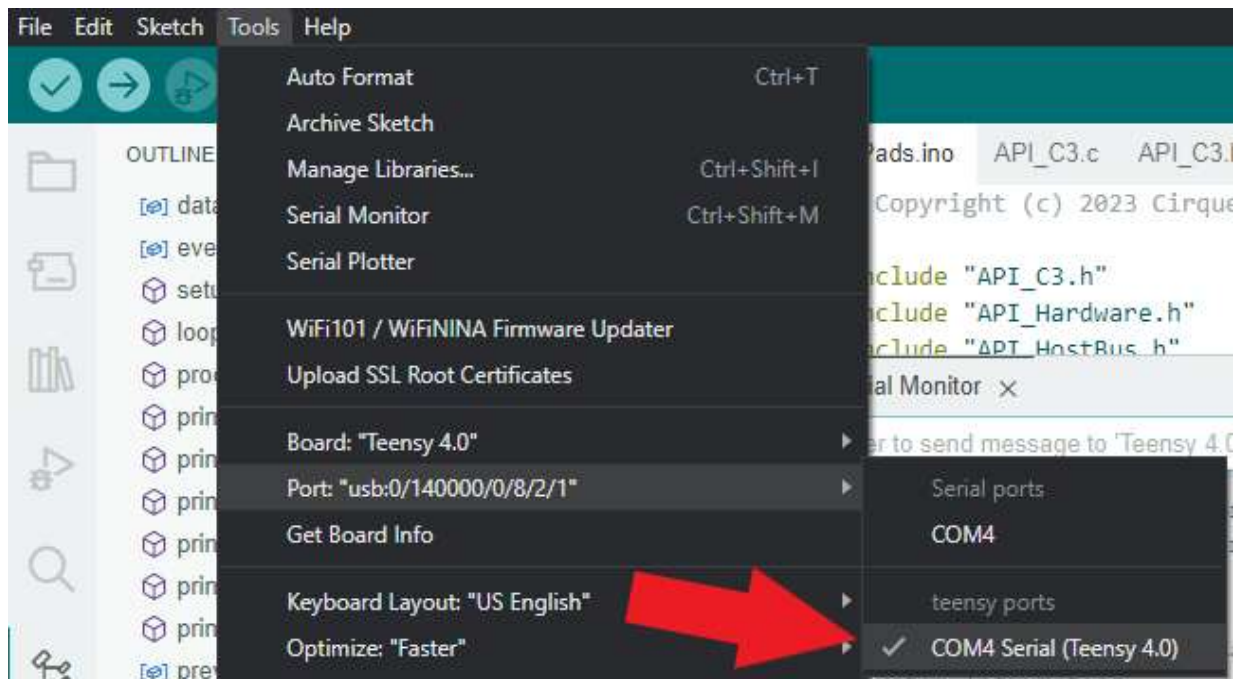

Figure 9: Select the proper port under “teensy ports”.
6. Once the loading is complete, select Tools > Port and make sure that the Teensy is selected as the serial port. If the port is listed more than once, select the option under “teensy ports” (See Figure 9).